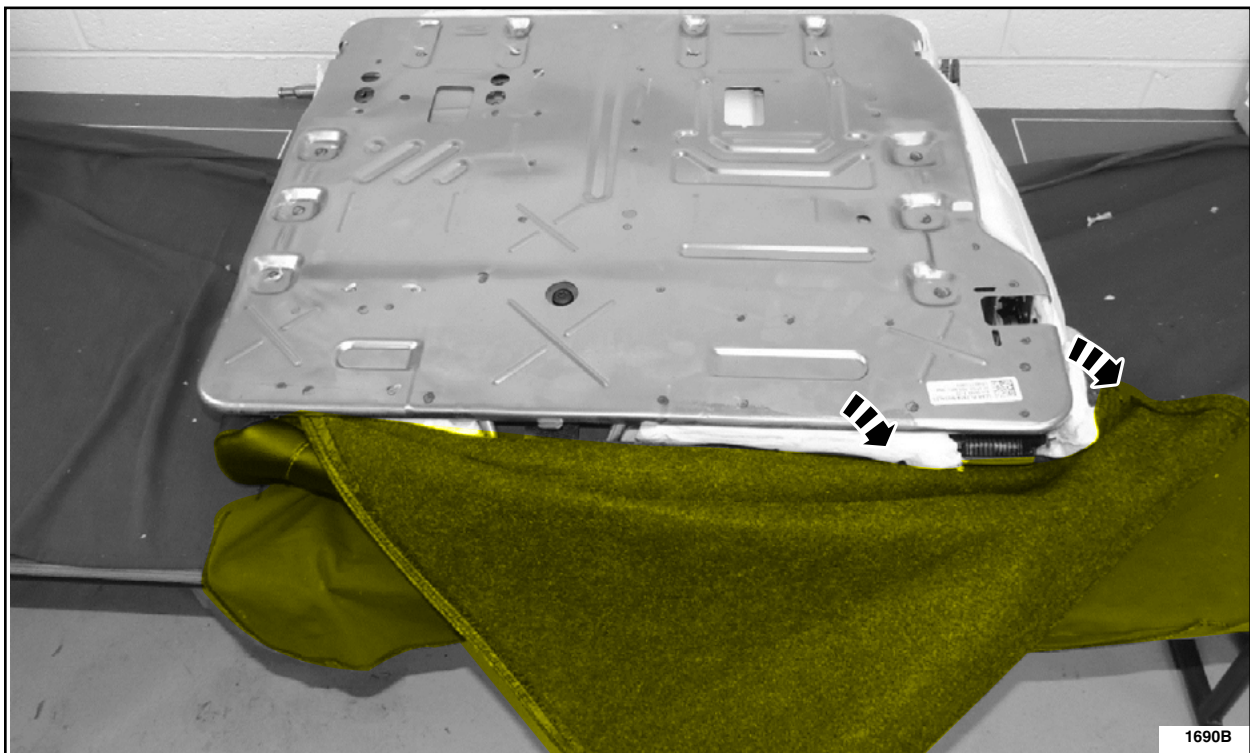

FIGURE 8
10. Pull the seat cover over the top of the frame. See Figure 8.